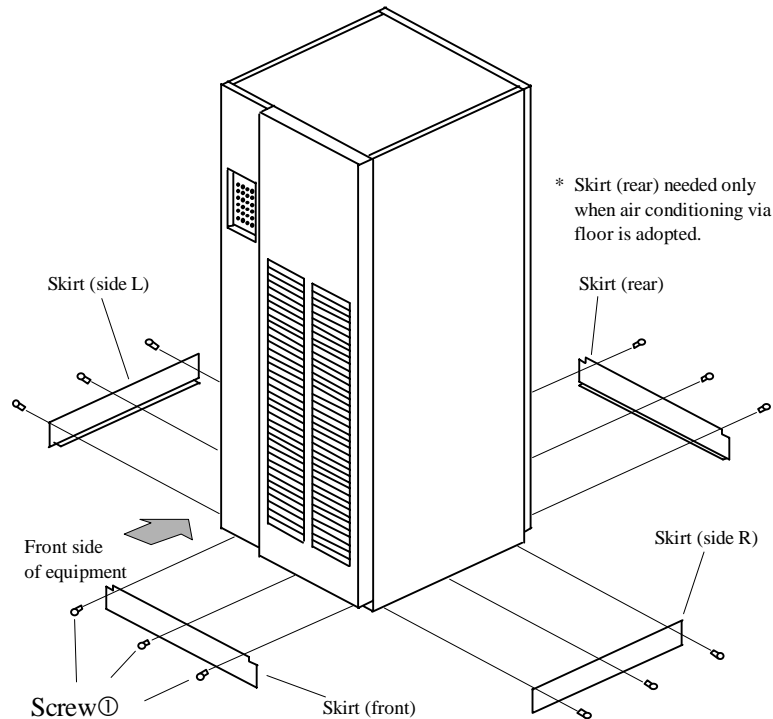

Figure 4.7.4 Attaching the Skirts
- ③ Attach the skirts (right, left, front, and rear sides) to the rack frame and by using 3 screws ① for each skirt as shown in Figure 4.7.4